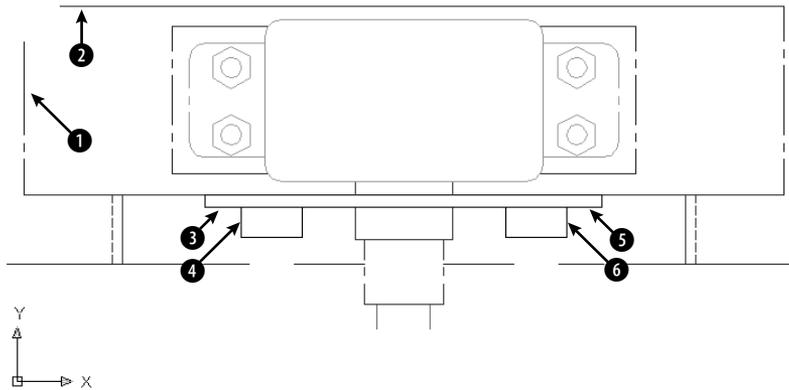

Figure 10-33: A mechanical drawing showing a small section of a “porcupine” mixer.
2. Save the file as ab10-11.dwg in your AutoCAD Bible folder. This is the same drawing used in the previous exercise. It is shown in Figure 10-33.
4. At the Select first object or [Polyline/Radius/Trim/mUltiple]: prompt, pick the line at ① in Figure 10-33. At the Select second object: prompt, pick the line at ② to fillet the two lines.
6. At the Select first object or [Polyline/Radius/Trim/mUltiple]: prompt, right-click and choose mUltiple. Pick the line at ③ in Figure 10-33. At the Select second object: prompt, pick the line at ④ to fillet the two lines. The prompts continue. This time pick at ⑤ and ⑥.